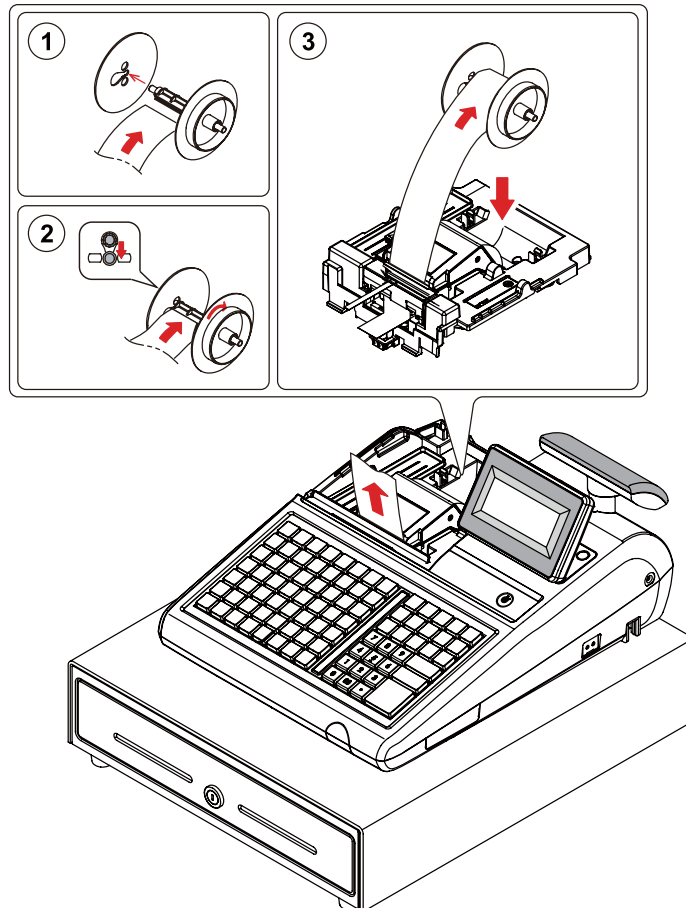

Figure 3-3 Spool Installation (1-Station)
8. Fold the end of the thermal paper about 20mm in length. Slide the leading end of the folded paper into the groove on the TAKE-UP SPOOL and wind it onto the SPOOL two or three turns as illustrated Figure3-3-①.
9. Put the removed GUIDE WINDING into the end of the TAKE-UP SPOOL WINDING and fix the removed GUIDE WINDING in the direction as shown in Figure3-3-②.
10. Place the TAKE-UP SPOOL into the PAPER-SUPPLY behind the PRINTER above the roll paper as illustrated Figure3-3-③.